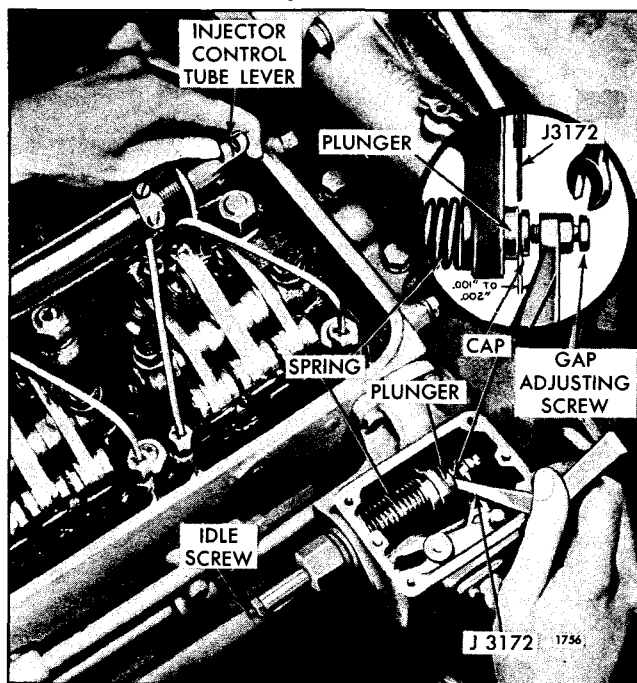

Fig. 1 - Adjusting Governor Gap
desired engine idle speed (Fig. 1). Hold the screw and tighten the lock nut to hold the adjustment.
7. Check the gap between the low-speed spring cap and the high-speed spring plunger with a .0015" feeler gage J 3172 as shown in Fig. 1. If the gap setting is incorrect, reset the gap adjusting screw.